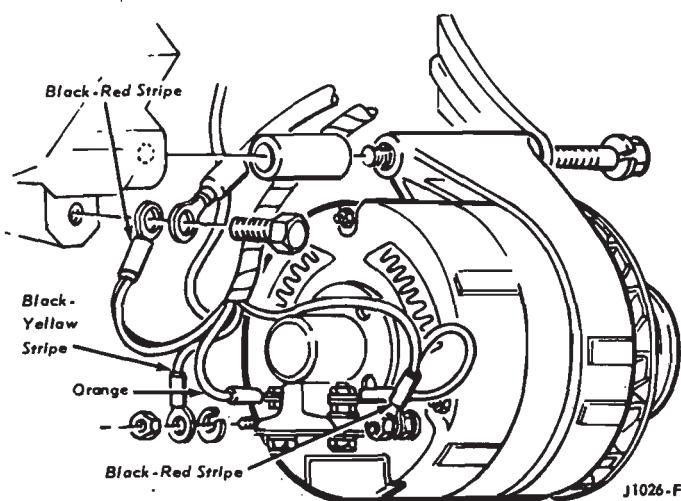

FIG. 3—Alternator Mounting
4. Connect the alternator wires (Fig. 3), position the alternator in the mounting bracket and install the mounting bolts and adjusting bracket bolt finger-tight.